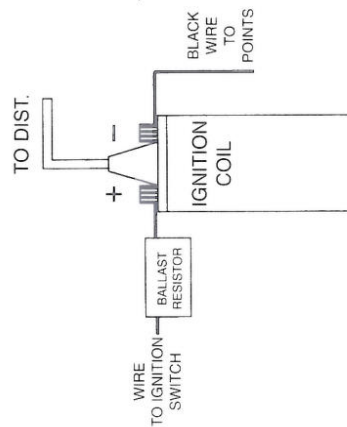

FIGURE 2
5. The **red** wire from the *Ignitor* must be connected to the **positive (+)** side of the coil, or a 12-volt switching source. The black wire must be connected to the negative (-) side of the coil. (See Figure 2 & 3).
11. You will be trying to get an air gap between approximately 0.010" at the low end and no more than 0.060" at the high end. With the distributor shaft pulled down, rotate the shaft and make sure the magnet ring does not rub against the *Ignitor* module. If it happens to rub against the *Ignitor* module, carefully bend the *Ignitor* module down until it does not rub. Bend with pliers at the bracket so as not to loosen the rivets. If there is a gap, rotate the distributor shaft and measure the largest air gap (12) between the face of the magnet ring and the face of the *Ignitor* module. If you have an Oldsmobile, and the largest gap is no more than 0.060", go to step #14. Otherwise, continue with the next step.
12. If the gap is greater than 0.060", record what it is. The gap is adjusted by installing thin washers (13) over the 6/32 studs (8) between the magnet ring and advance mechanism plate. It is necessary to remove module, rotor, and ring to do this. The washers are 0.032" thick. From the gap measurement recorded, calculate how many washers are needed to bring the lowest part of the magnet ring to approximately 0.010" from the *Ignitor* module. Install the required washers. Always be sure that there is the same number of washers on each side. If you have an Oldsmobile, go to step #14. Otherwise, go to the next step.
13. Now push the distributor shaft up and rotate. If the highest point between the *Ignitor* module and the magnet ring is greater than 0.060", you will need to place shims (15) between the gear and distributor housing to prevent the gap from going over 0.060".
21. For installations that do not use a primary ballast resistor, connect the *Ignitor* red wire to the positive (+) side of the ignition coil. (See Figure 2).